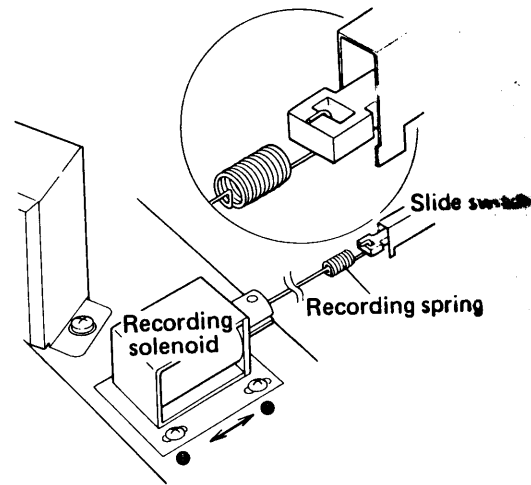

Fig. 8-5 Recording Solenoid Adjustment
2. Loosen screws ① and adjust the recording solenoid mounting position so that the recording spring is stretched by 0.5 to 1mm as shown in Fig.8-5.